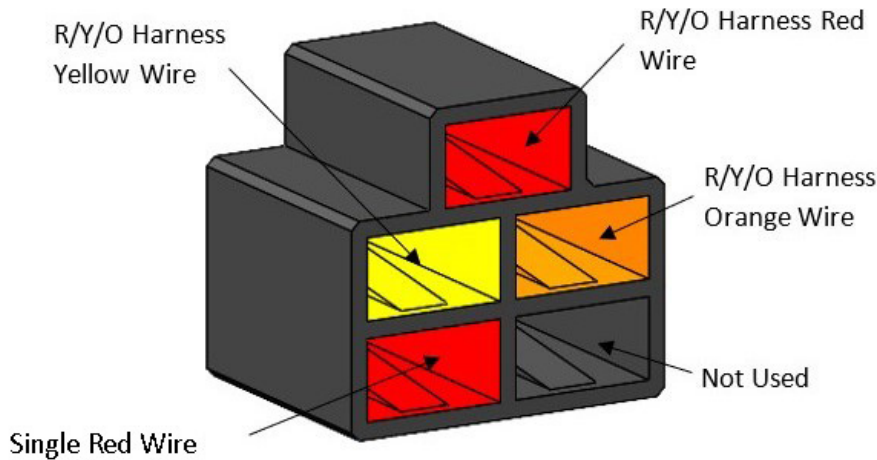

FIGURE 10
23. Locate the 36" wiring harness and ensure the wires are correctly connected to the 5-pin black connector as shown in **FIGURE 10** and the 4-pin white connector as shown in **FIGURE 11**.